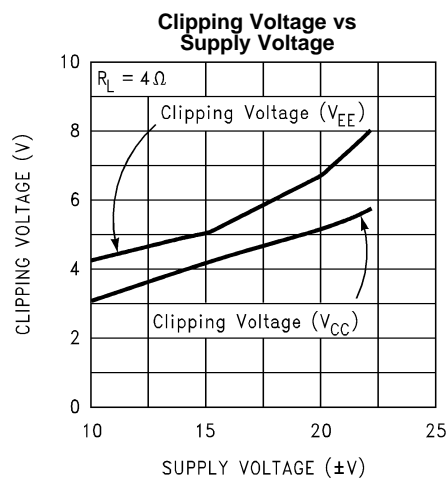
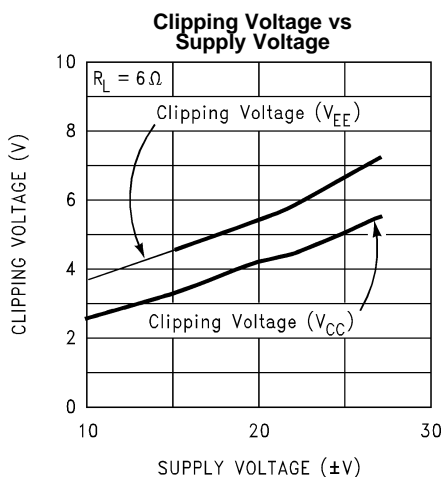
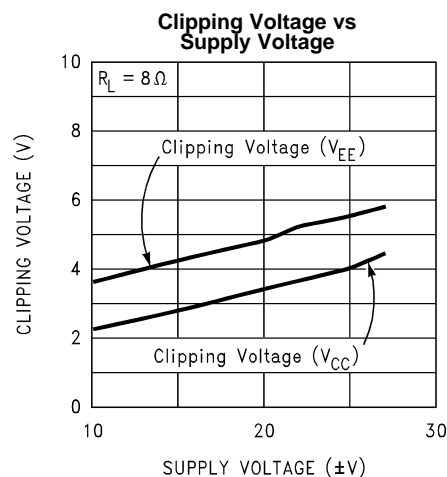

Figure 16.
Figure 17.
Figure 18.
(8) DC Electrical Test; Refer to Test Circuit #1 \(DC Electrical Test Circuit\).
(9) The output dropout voltage, V_{OD} , is the supply voltage minus the clipping voltage. Refer to Figure 16, Figure 17, and Figure 18 in Typical Performance Characteristics.